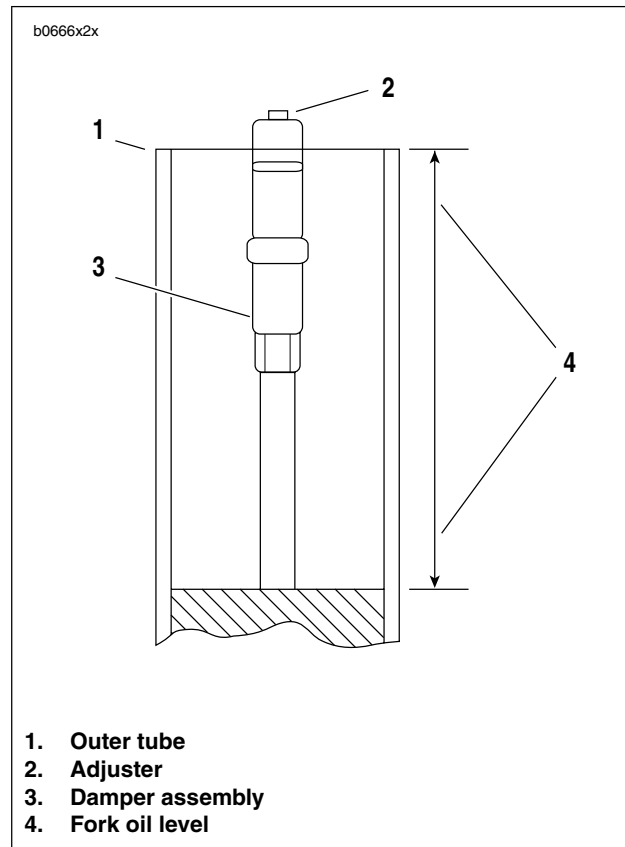

Figure 2-73. Measuring Fork Oil Level
17. See Figure 2-73. Adjust fork oil level with FRONT FORK OIL LEVEL GAUGE (Part No. B-59000A) so that it is 4.57 in. (116 mm) from the top of the fork tube.